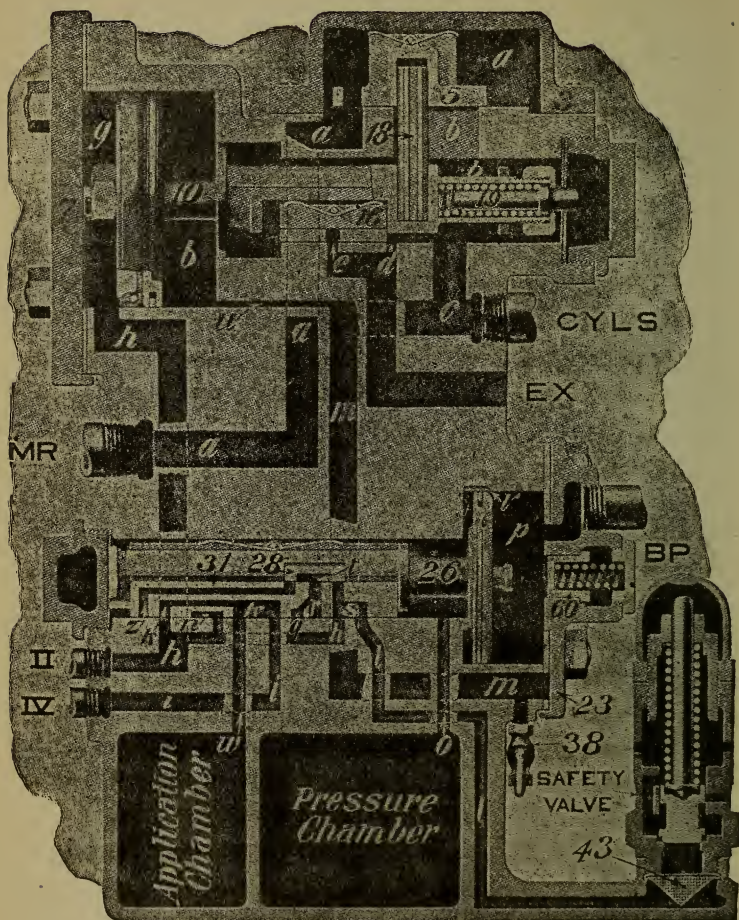

Fig. 2—No. 6 Distributing Valve Release Position, Automatic or Independent.
A. In chamber *a*, (see Figure 2), above the application valve.